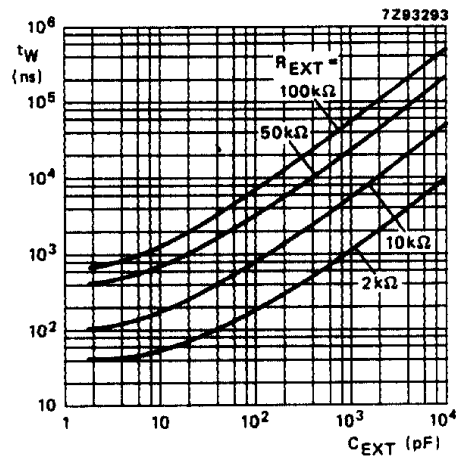

Fig.9 Typical output pulse width as a function of the external capacitor values at $V_{CC} = 5.0\text{ V}$ and $T_{amb} = 25\text{ }^\circ\text{C}$.
- For other R_{EXT} and C_{EXT} combinations see Fig.9.